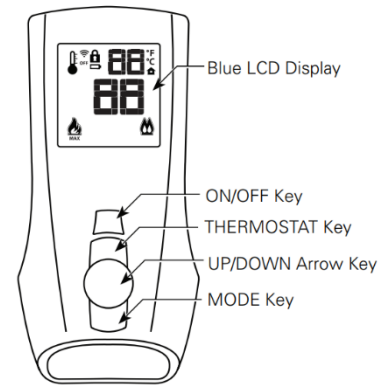
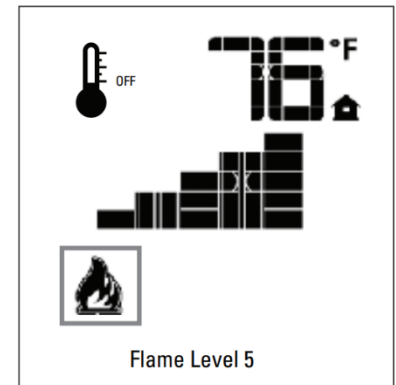
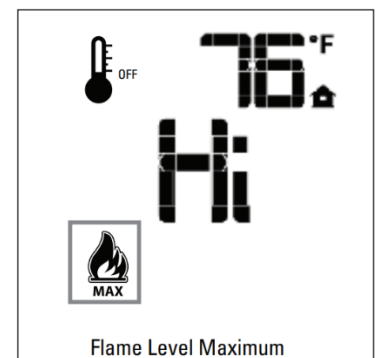

FIGURE 10
FIGURE 11
FIGURE 12
With the system in the “OFF” position, press the Thermostat Key and the Mode Key at the same time (**Figure 10**). Look at the LCD screen on the Remote to verify that a C or F is visible to the right of the Room Temperature display (**Figure 11**).
Press the ON/OFF Key on the Remote. The Remote display will show all active Icons on the screen and the appliance main burner will turn on (**Figure 11**). A single “beep” from the Receiver will confirm reception of the command.
The system has six (6) flame levels. See (**Figure 11**) for an example. With the system on, and the flame level at the maximum in the appliance, pressing the Down Arrow Key once will reduce the flame height by one step until the flame is turned off. The Up-Arrow Key will increase the flame height each time it is pressed. If the Up Arrow Key is pressed while the system is on, but the flame is off, the flame will come on in the high position (**Figure 12**). A single “beep” will confirm reception of the command.